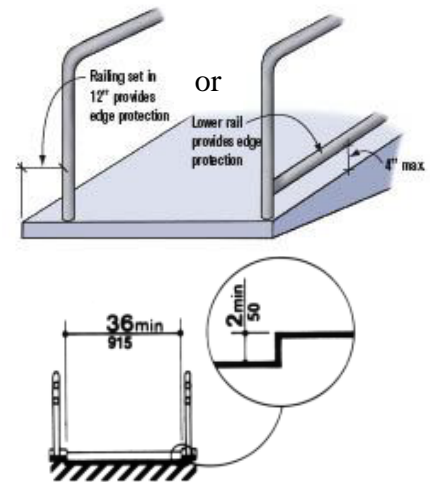

Figure 2
6. Edge Protection (see fig. 2 below):